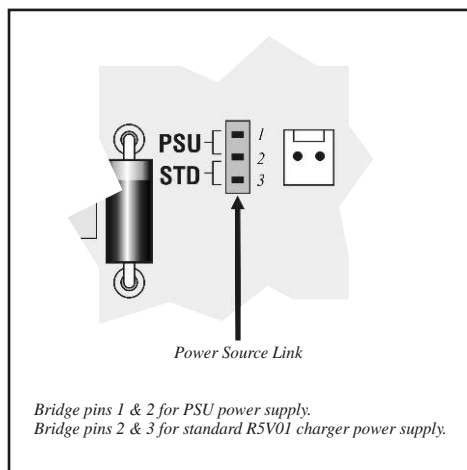

Figure 24 CP75 Power Source Link
3. Check that the power source link is in the STD position when using a standard CP84ER5V01 charger, or PSU position for PSUx power supply driven installations. See Fig. 24